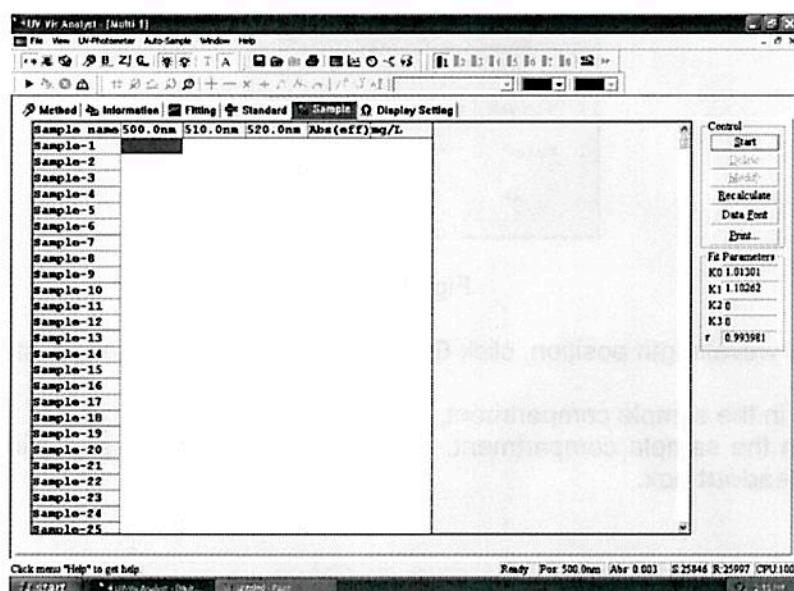

Fig. 4-3
6. Click the **Sample** tab. It will display the following (Fig. 4-3). The control menu contains six buttons: **Start**, **Delete**, **Modify**, **Recalculate**, **Data Font** and **Print**.